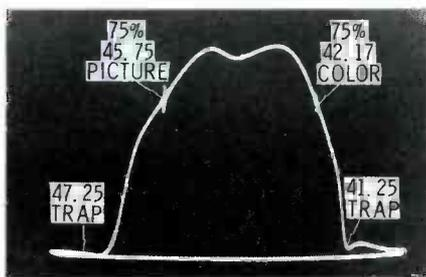

Fig. 7 The correct link curve with both color and picture carriers at 75%.
5. Some sort of curve should now be seen on the scope. Fig. 7 shows the curve we want; however, it is very unlikely that we will obtain this curve until both the equipment and the link alignment are adjusted.
8. Fig. 9 shows several wrong curves that are caused by improper sweep width and AGC bias. Adjust the sweep width so that the curve is about the size of the one in Fig. 7.